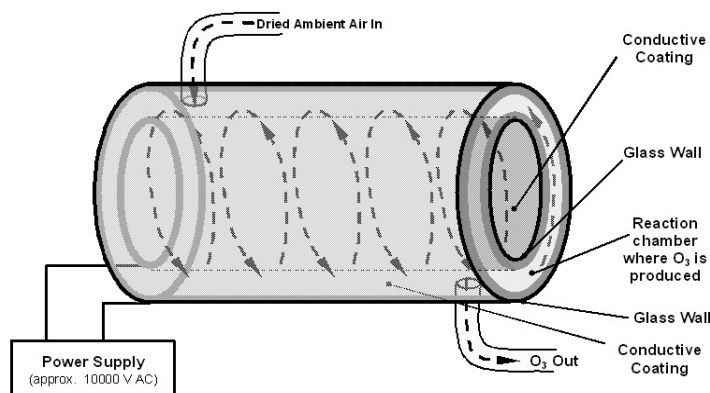

Figure 6-8. Ozone Generator Principle
The analyzer uses a dual-dielectric, Corona Discharge (CD) tube for creating its O3, which is capable of producing high concentrations of ozone efficiently and with low excess heat (see Figure 6-8). The primary component of the generator is a glass tube with hollow walls of which the outermost and innermost surfaces are coated with electrically conductive material.